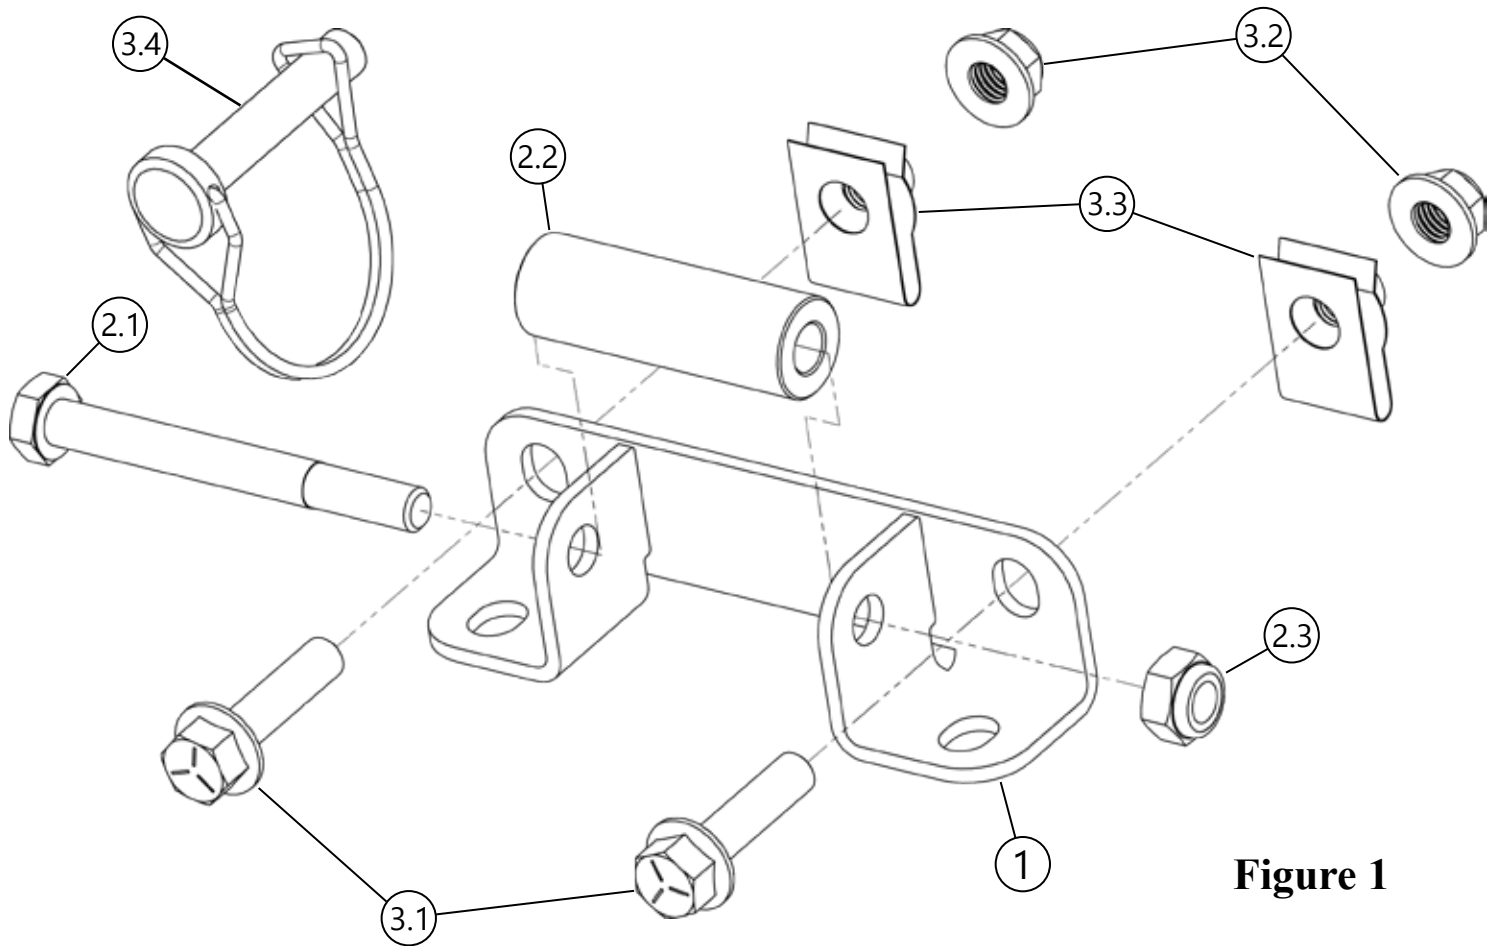

Figure 1
1. Assemble POM Roller Kit (2) onto Pulley Bracket (1) as shown in **Figure 1**.